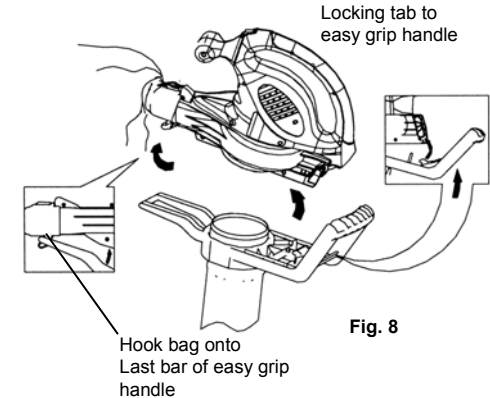

Fig. 8
6. Lift easy grip handle to secure locking tab in place. (Fig. 8)